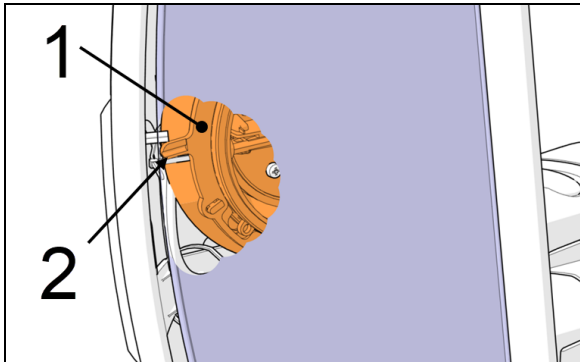

FIGURE 103: (1) LOCK RING; (2) TAB
3. Lift the mirror unit (E1, Figure 103) from the mounting plate and tilt (E2, Figure 103) so it detaches from the mounting plate.